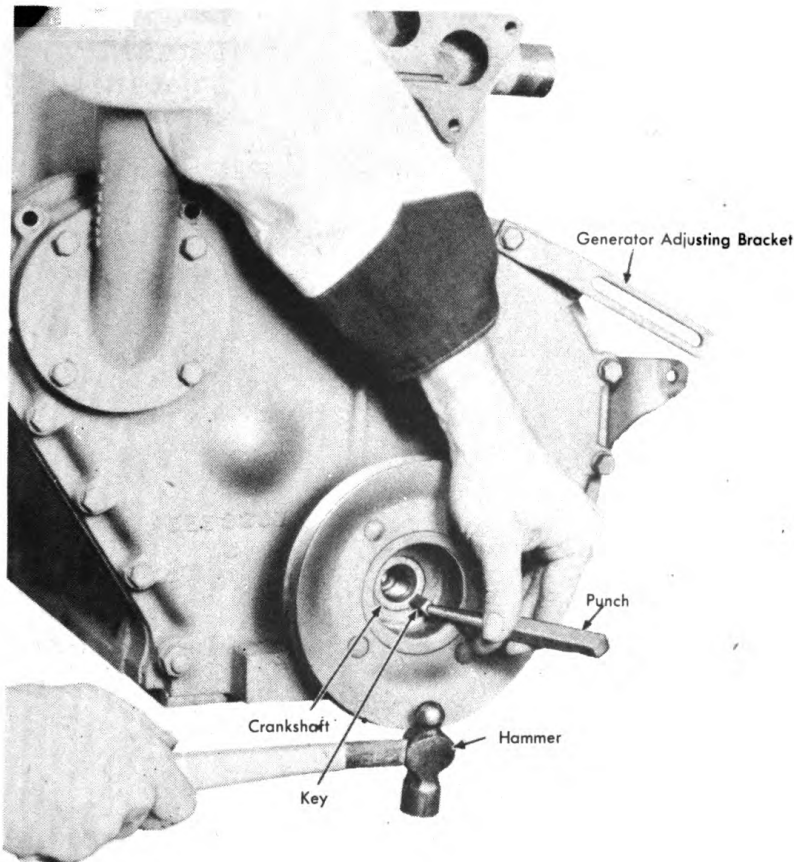

Figure 196. Installing Crankshaft Pulley.
30. Install the crankshaft fan drive pulley, line up the key with the key way, and drive it in as shown in Figure 196.